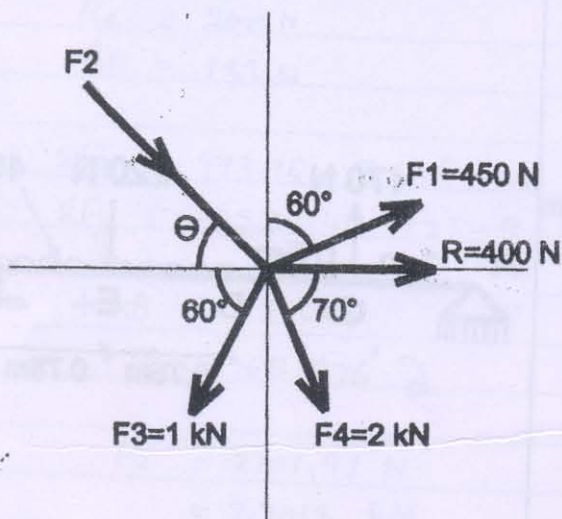

Figure 5
- (b) Find the magnitude of force F_2 and angle θ for the figure 5. 06